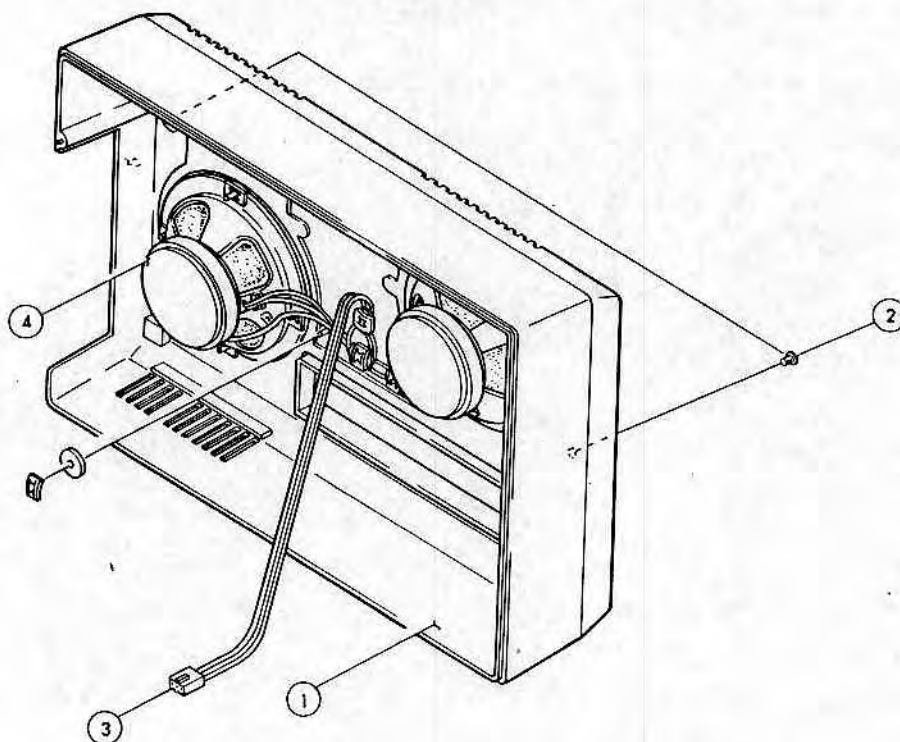

FIG. 2
TROUBLESHOOTING: (Refer to Fig. 2)
1. Unscrew the (2)x2 and take off the (1) after disconnecting the (3).
2. Go on with disassembly works, referring to Fig. 2.